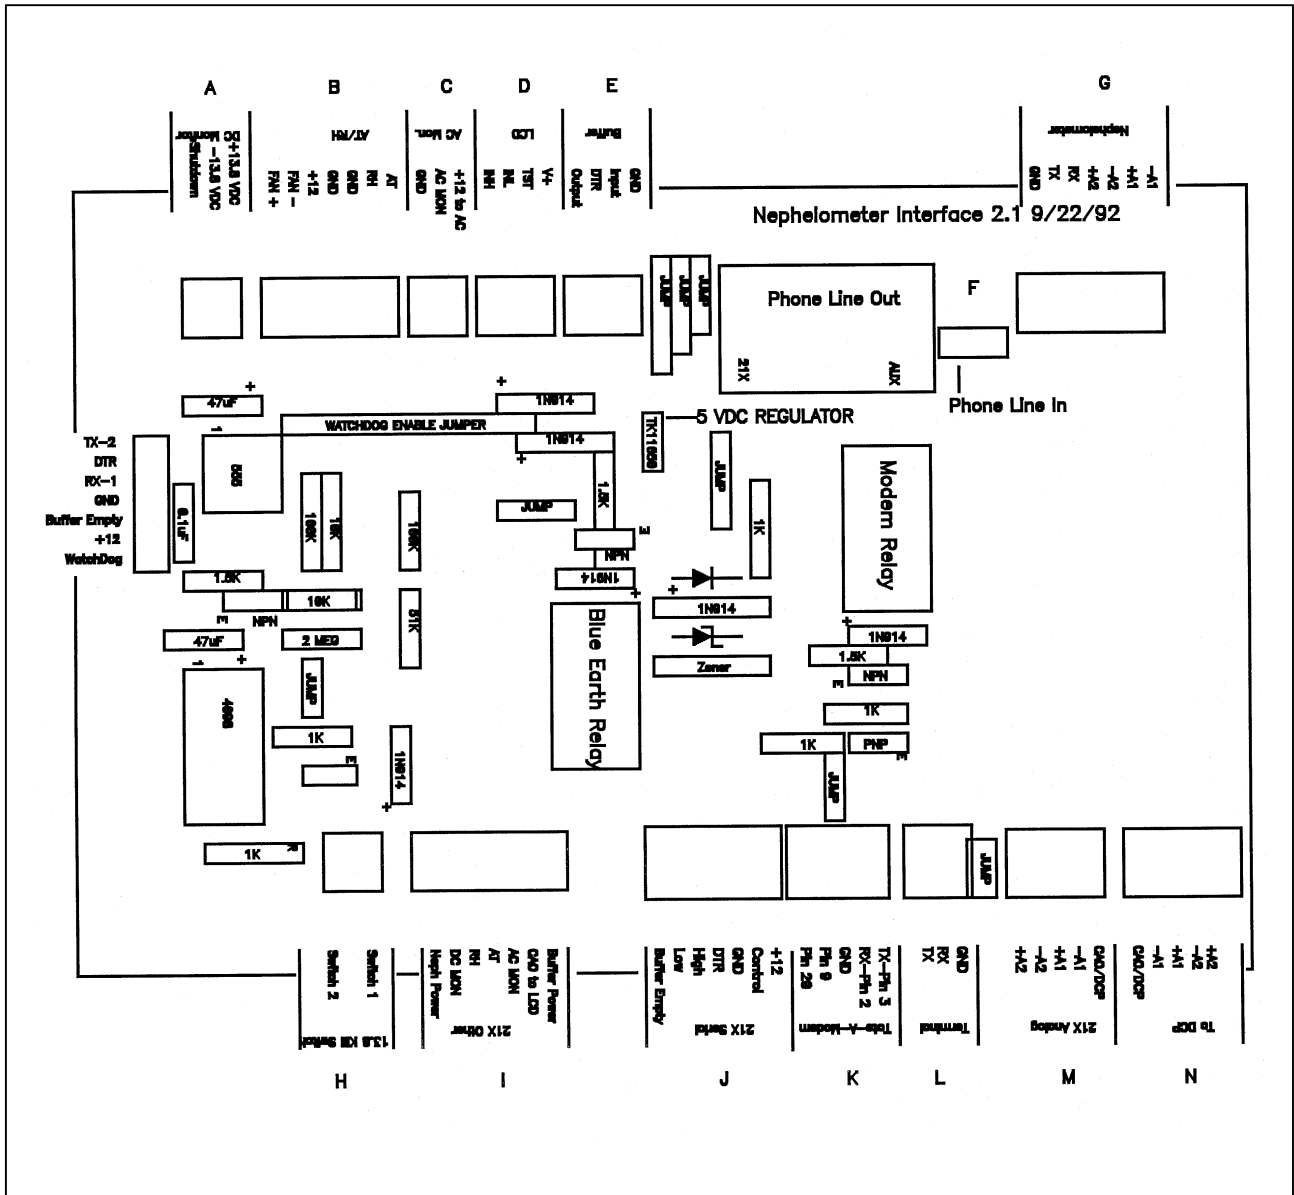

Figure 4-6. Interface Circuit Board Layout.
Figure 4-6 shows the layout of the interface circuit board. Tables 4-4 and 4-5 detail the wiring related to the Interface Circuit Board (CB).